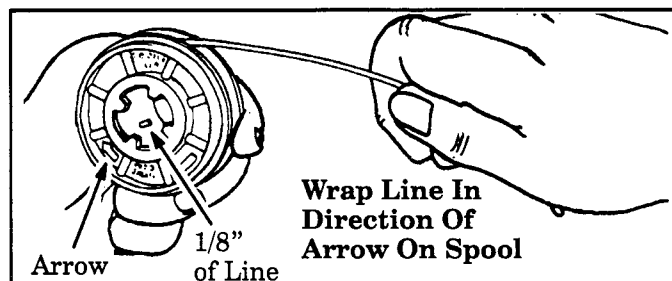

Figure 20
- Hold spool as shown in Figure 20.
- Insert 1/16 to 1/8 inch of line through the hole in the inner rim of the spool. Figure 20. Allow no more than 1/8 inch of line to extend beyond the inner rim of the spool to avoid interference with the drive gear.
- d. Wrap line evenly and firmly in the direction indicated by the arrow on the spool. Figure 20 . To ensure proper line advance, avoid crossover or crisscrossing of the line.